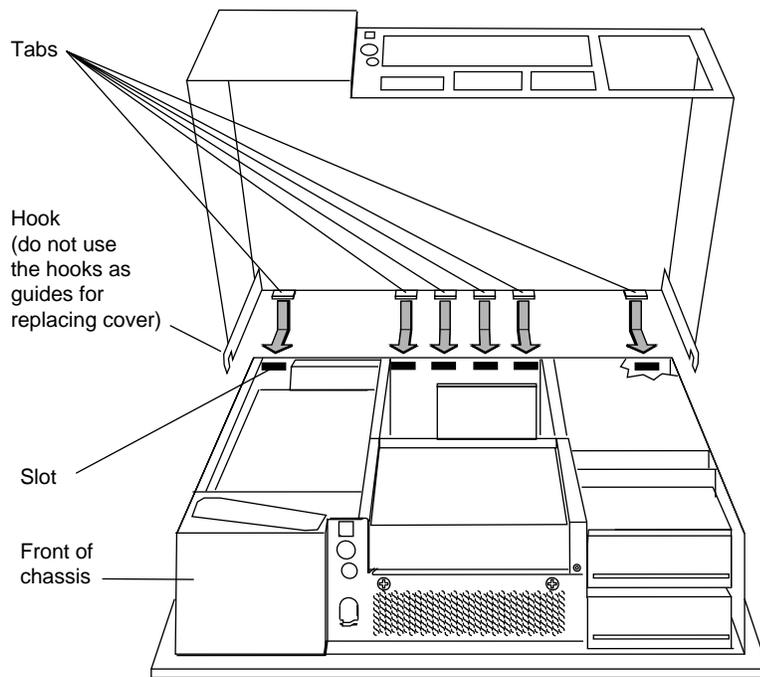

Figure 2-33 Replacing the Cover
1. Locate the tabs on the inside and back of the top cover and the holes on the back of the workstation (Figure 2-33).